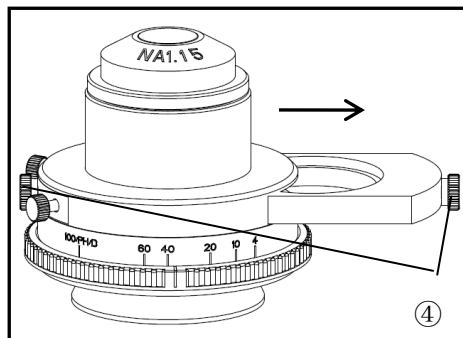

Fig.34
7.2.1 Installing the Phase Contrast Slider (Fig.34)